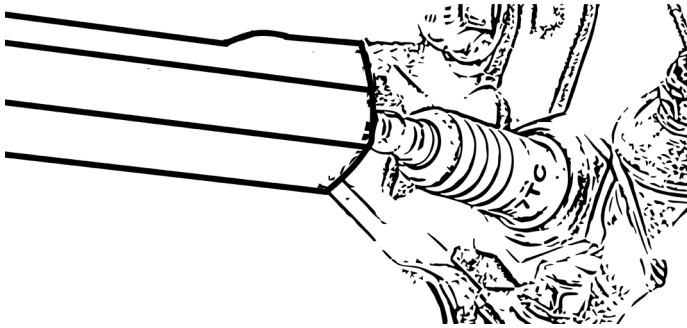

Figure 26
- Loosen the spark plug using the spark plug wrench, Fig. 26.